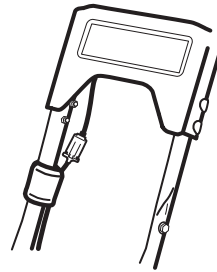
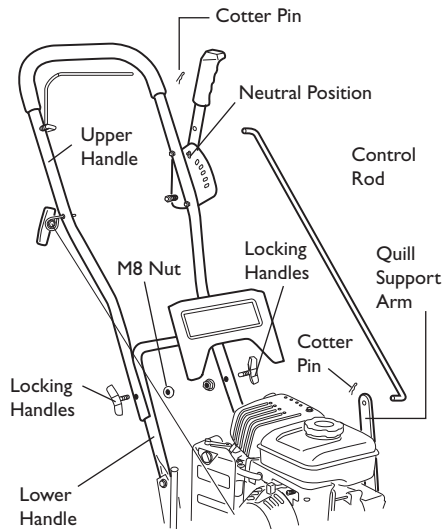

Figure 4
Figure 5
3. Connect the wires using the plastic connectors fitted. Secure wires with handle clips provided. (See Figure 4)
4. Use the (2) cable ties to secure the loose cable coming from the start lever to the handle. Use (1) cable tie on the right side of the upper handle and (1) cable tie on the left side of the lower handle. Make sure cable goes behind handle panel.
5. Slide one end of the control rod from left to right through the hole in the clutch lever. Secure with the cotter pin. (See Figure 5)
6. Move the clutch lever to the first depth position. Attach the other end of the control rod to the quill support arm with the cotter pin. (See Figure 5)
- NOTE:** If it is difficult to move the clutch lever to the "N" NEUTRAL position, loosen the fasteners that hold the lower handle to the edger frame (See Figure 5). Raise the handle until the clutch lever will easily move to the "N" NEUTRAL position. Tighten the fasteners.